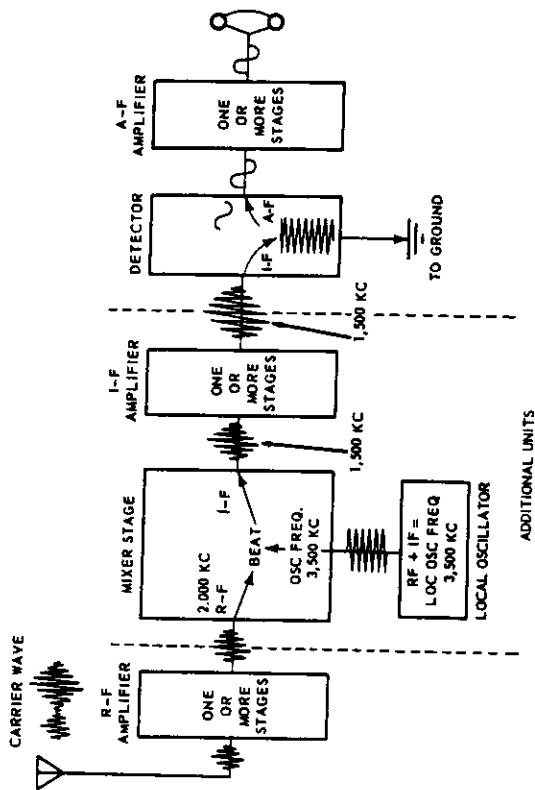

Figure 10-16 Block Diagram of the Superheterodyne Receiver
The superheterodyne contains all the major units of the TRF, with three additional units - mixer, local oscillator, and intermediate-frequency (IF) amplifiers - inserted between the RF amplifier and detector. Refer to Figure 10-16. Operation of the RF amplifier, second detector, and AF amplifier is the same as in the TRF receiver, but the added components (local oscillator, and IF amplifiers) change the operation of the circuit as a whole.
mixer stage. In Figure 10-16 the received carrier wave frequency is 2000 kcs. A second and higher frequency - 3500 kcs in the example - is produced in the local oscillator. The frequency of the local oscillator is controlled by the tuning dial on the receiver. As the receiver is tuned to a new frequency, the frequency generated by the local oscillator changes also, but always remains a certain number of kilocycles higher than signal frequency. In Figure 10-16 the local oscillator signal is 1500 kcs higher than the carrier. This signal is sent into the mixer stage to be beaten with or mixed with the carrier signal - that is, **HETERODYNE**.